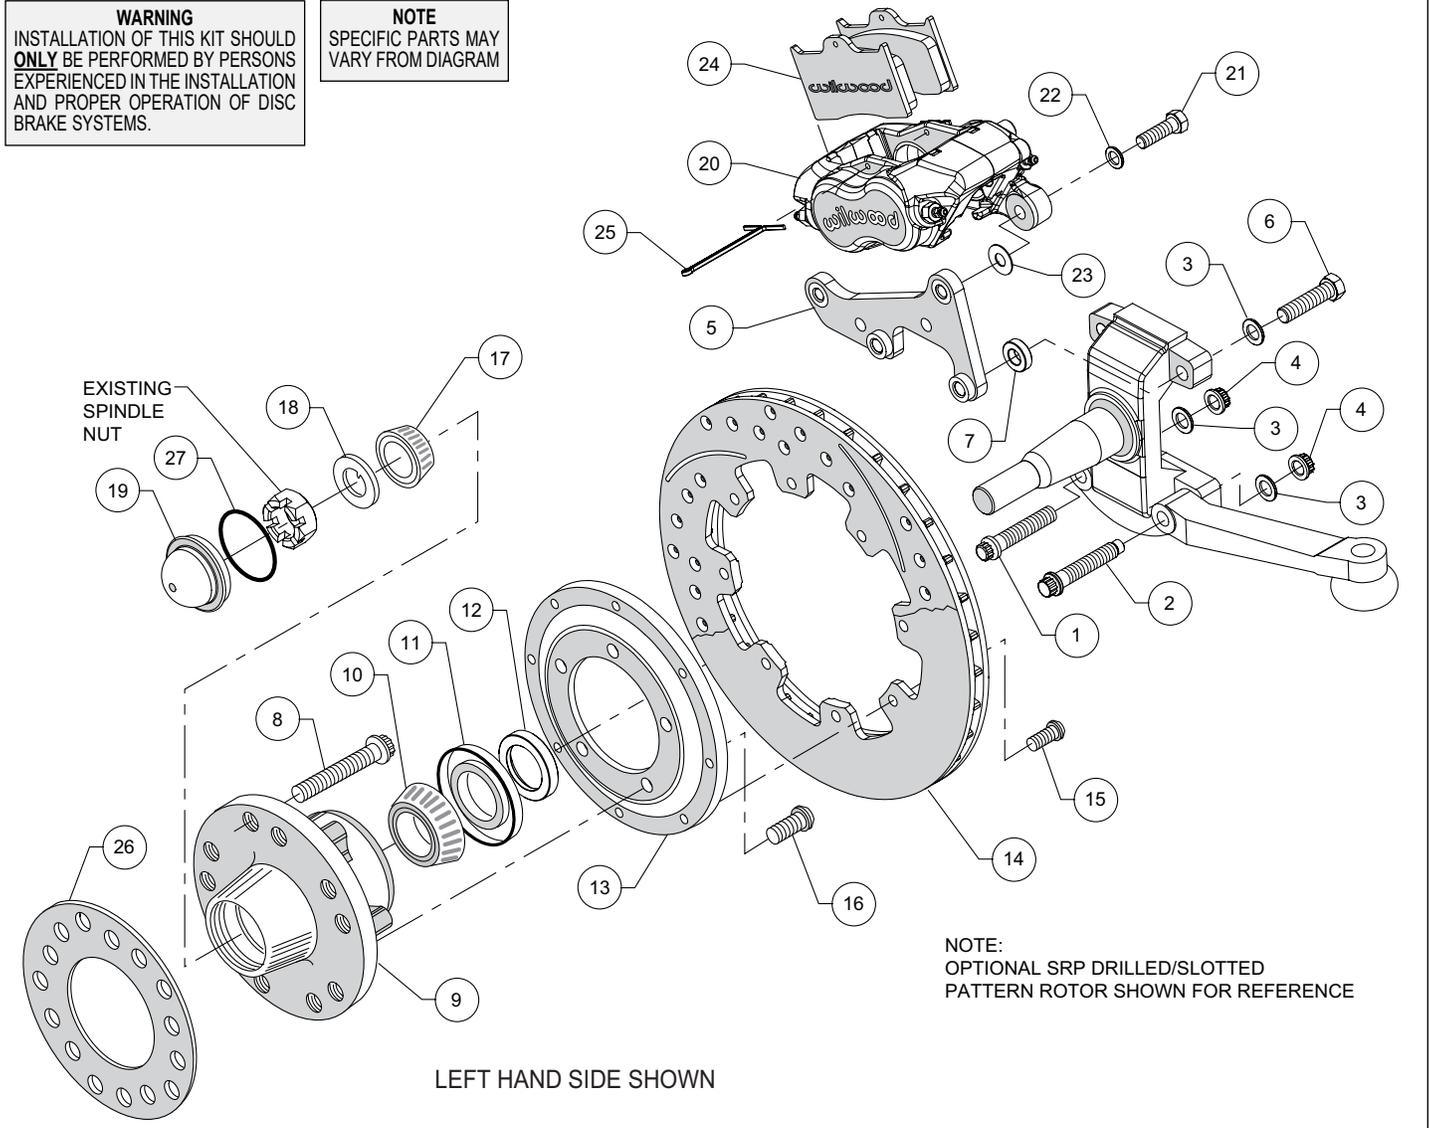

Figure 1. Typical Installation Configuration
**NOTE:** Numbers in parenthesis refer to the parts list and Figure 1 on the preceding pages.
- One at a time, remove the two lower OEM bolts that secure the steering arm from the back side of the spindle. Replace with new bolt (1), in the forward most hole, and bolt (2) in the rear hole, Photo 1. **NOTE:** The longer bolt with the end of the threads turned down is the steering stop. The new bolts are installed in the opposite direction as the original bolts, from the outside, Photo 2. Secure bolts using washer (3) and nut (4) as shown in Figure 1. Torque nuts to 47 ft-lb.
- Orient the caliper mount bracket (5) as shown in Figure 1 and Photo 2, and install using bolts (6) and washers (3). Place spacers (7) between spindle and bracket. Ensure that the flanged heads of the clinch nuts in the bracket are facing outboard, Photo 2. Temporarily tighten the mounting bolts. **NOTE:** The bracket must fit squarely against the mount bosses on the upright. Inspect for interference from casting irregularities, machining ridges, burrs, etc. Remove bolts one at a time, apply red *Loctite*® 271 to the threads and torque to 60 ft-lb.
- Install wheel studs (8) into the hub (9), Photo 3. Torque to 77 ft-lb.
- Pack the large inner bearing cone (10) with high temperature disc brake bearing grease (available from your local auto parts store) and install into the backside of the hub (9), Photo 4.
- Install the grease seal (11) by pressing into the backside of the hub (9), flush with the end of the hub, Photo 4.
- Orient the rotor (14) and the rotor adapter (13) as shown in Figure 1 and Photo 5. Attach the rotor to the adapter using bolts (15). Apply red *Loctite*® 271 to the bolt threads and torque to 25 ft-lb using a criss-cross pattern.
- Mount the adapter/rotor assembly (13/14) to the hub (9) using bolts (16), as shown in Figure 1 and Photo 6. Apply red *Loctite*® 271 to the bolt threads and torque to 45 ft-lb using a criss-cross pattern.
- Slide the bearing spacer (12) onto the spindle. Ensure the chamfered I.D. faces inward, Photo 7.
- Pack the small outer bearing cone (17) with high temperature disc brake bearing grease and install into hub (9). Slide the hub/rotor assembly onto the spindle. Secure using spindle washer (18) and nut, Photo 8. **NOTE:** *The O.D. of the existing OEM spindle washer may be larger than the I.D. of the dust cap not allowing it to seat against the hub face. Therefore, use the spindle washer (18) supplied with the kit instead of the OEM washer.* Adjust bearings by tightening the wheel bearing nut to 60 **in-lbs.** while turning the hub/rotor assembly. Back off the adjusting nut one slot and install a new cotter pin (not supplied). **The resulting adjustment should be zero (no pre-load to 0.003 inch end play.** **NOTE:** *The left hand spindle has left hand threads.*
- Install the o-ring (27) onto the dust cap (19). Press the dust cap into the hub (9) until o-ring is lightly compressed, Photo 9. **NOTE:** *O-ring is a spacer to ensure spindle pin does not make contact with cap.*
- NOTE:** *Please reference the caution statement at the beginning of the assembly instructions.* Mount the caliper (20) onto the caliper mounting bracket (5) using bolts (21) and washers (22), as shown in Figure 1. Initially place one .035" thick shim (23) on each bolt between the caliper and the bracket, Photo 10. Temporarily tighten the mounting bolts and view the rotor (14) through the top opening of the caliper. The rotor should be centered in the caliper, Photo 11. If not, adjust by adding or subtracting shims between the bracket and the caliper. Always use the same amount of shims on each of the two mounting bolts. **NOTE:** *The end of each bolt must be flush with or slightly protruding from the head of the clinch nut, as shown in Figure 3.* If necessary place spare shims between washer (22) and caliper mounting ear to achieve the proper clinch nut engagement. Once the caliper alignment and clinch nut engagement are correct, remove the bolts one at a time, apply red *Loctite*® 271 to bolt threads, and torque to 40 ft-lb.
- Install the disc brake pads (24) into the caliper, with the friction material facing the rotor (14), and secure in place using cotter pin (25), Photo 12.
- Install wheel spacer (26) as shown in Figure 1 and Photo 13. Temporarily install wheel and torque lug nuts to manufacturer's specification. Ensure that the wheel rotates freely without any interference. **NOTE:** *Wheel spacer (26) MUST be used if any wheel contact surfaces overhang the outside diameter of the hub face. See warning on page 3.*